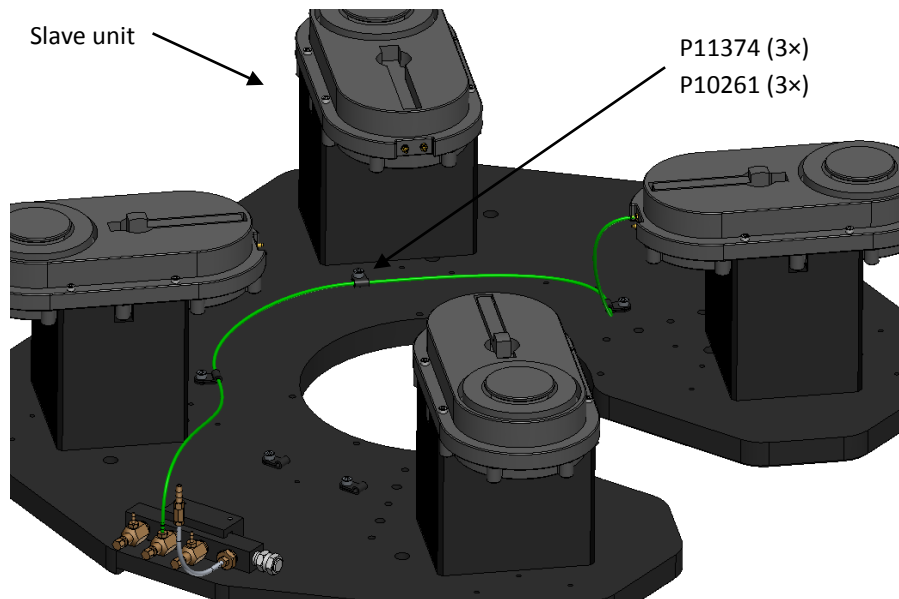

Figure 5
- Refer to **Figure 5**. Starting with pod farthest from the manifold, route the flexible tubing. Secure the flexible tubing with P11374 (Nylon Loop Strap for 1/8) using P10261 (Screw, M4×0.7×5 SS SHC) each as shown.